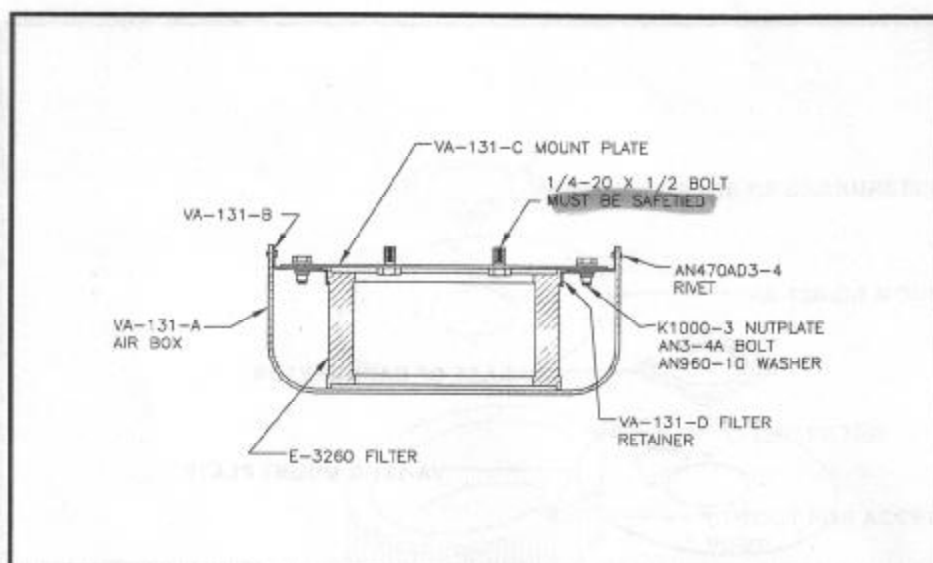
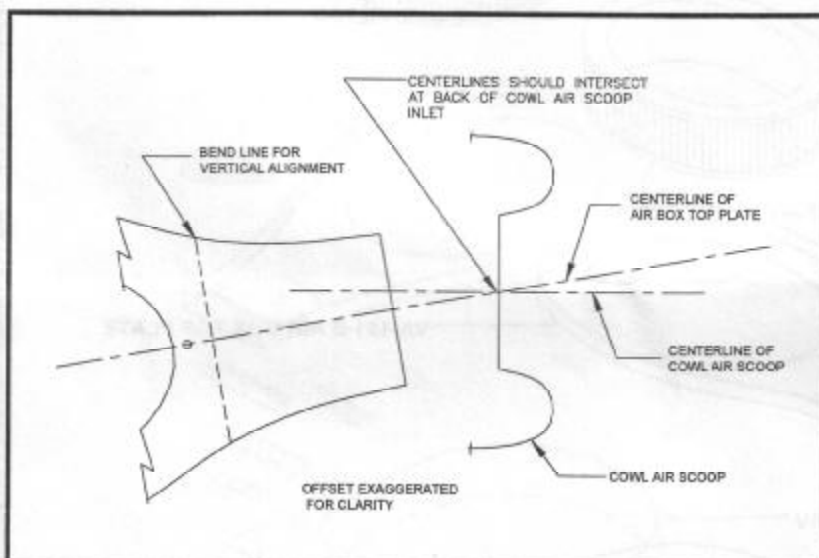

FIG. 2
FIG. 3
- ❑ Estimate where the rivets will go in the flange and flute the top plate to get it flat. Bolt the mount plate to your carburetor. Clamp the top plate to the mount plate. Center carefully and keep the neck on the top plate pointed forward. Now install the lower cowl. Carburetor locations and cowl scoop positions differ from one airplane to the next. Check to make certain that the neck is aligned with the cowl air scoop horizontally (Fig. 3). If not, remove the cowl, realign the neck and check again. If the exhaust system is not installed, you may be able to reach inside the cowl and make the adjustment. When the top plate neck is aligned with the cowl scoop inlet, carefully mark the top plate so that after the clamps are removed realignment is possible. Remove the assembly and drill the top plate using the aligned mount plate as a template, and install the plate nuts and the VA-131-D filter retainers (Fig. 2 & 5) to the top plate. Fabricate the retainers from the material supplied.
- ❑ Vertical alignment of the top plate can now be checked in much the same manner. Bolt together the mount plate and the top plate, then install on the carburetor. Install the cowl, and check that the top plate neck is vertically flush with the top of the cowl air scoop (Fig. 8). During this procedure it's a good idea to also install the upper cowl to correct any sagging in the lower cowl. Any vertical misalignment is corrected by bending the top plate. Flute or notch the flanges on the top plate and bend it as close to the mount plate as possible (Fig. 3). The bend must be sharp to avoid gaps when the carburetor heat door is open (ram air position). Note: The engine will sag later about 1/8" so you can temporarily put two washers between the mount plate and the carburetor to compensate.
- ❑ The filter must be compressed between the mount and the air box in order to provide an air tight seal (Fig 2). To compress the filter, mount the top plate 1/16 inch below the top of the filter. Screw the mount plate to the top plate and place the filter between the assembly and the air box. Compress the filter 1/16" and when satisfied with the fit, drill and cleco the top plate to the air box. Do not drill the rivet holes forward of the bend that you made during vertical adjustment. Check that the opening of the air box inlet matches the opening in the cowl air scoop. If it doesn't match, cut the side of the fiberglass VA-130-A or VA-131-A at the point of the bend in the VA-130-B or VA-131-B. Position the forward end so the height of the opening is correct. Drill the remaining holes. Use polyester resin and glass cloth to close the cut.